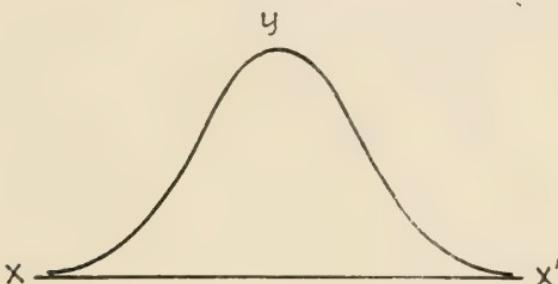

FIG. 1.
**The Probability Curve.** Referring to problem 3, page 6, it will be seen that the curve takes the form indicated in Fig. 1.
A familiar illustration is afforded by target practice. If the target is marked off into divisions, the distances of these divisions from the center may be taken to represent the magnitude of the errors. If a series of shots be fired by expert marksmen under normal conditions, they will form the basis for a curve which will resemble Fig. 1.
$c$  is negative (why?) and may be replaced for the sake of convenience by  $-2h^2$ . We may also replace  $e^{k'}$  by  $k$ . Then  $y=ke^{-h^2x^2}$ , which is the equation of the probability curve. It is similar in form to the equation suggested to express the curve in Fig. 1.